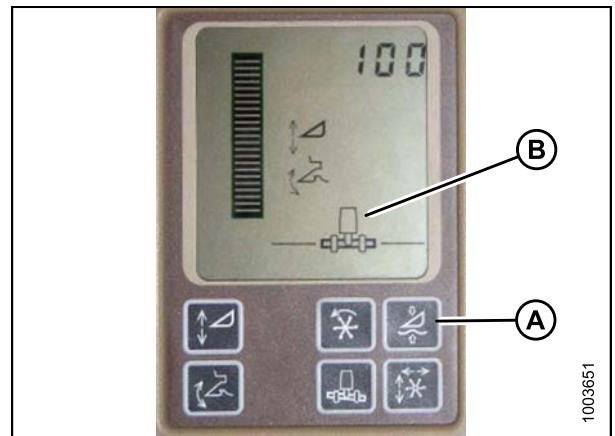

Figure 6.37: John Deere Combine Display
Do **NOT** use the active header float function (A) in combination with the MacDon auto header height control (AHHC)—the two systems will counteract one another. The header symbol (B) on the display should NOT have a wavy line under it and should appear exactly as shown on the Active Header Control Display in Figure 6.37: *John Deere Combine Display*, page 87.